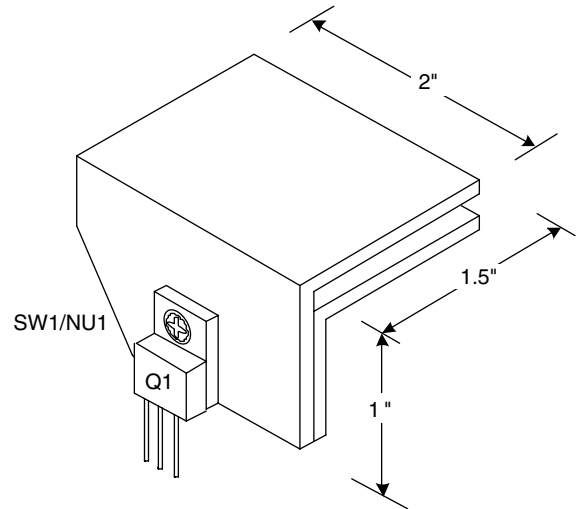

Figure 8-3 Heat-sink fabrication.
2. The heat sink for FET Q1 is made from a bent piece of 1/16-inch aluminum sheet (Fig. 8-3). Two overlapping pieces should be used to ensure that the FET stays cool when operating. Note that the trailing edge is cut at an angle to provide clearance for some of the board components. Also note that you should drill the hole for attaching SW1/NU1 through the tab of Q1.
After all these components are soldered in place, the MOSFET Q1 with attached heat sink (which was fabricated in Fig. 8-3) is now soldered into the Q1 location on the PCB. The heat sink should clear the inductor L1 and transformer T1 by $\frac{1}{2}$ inch or more.